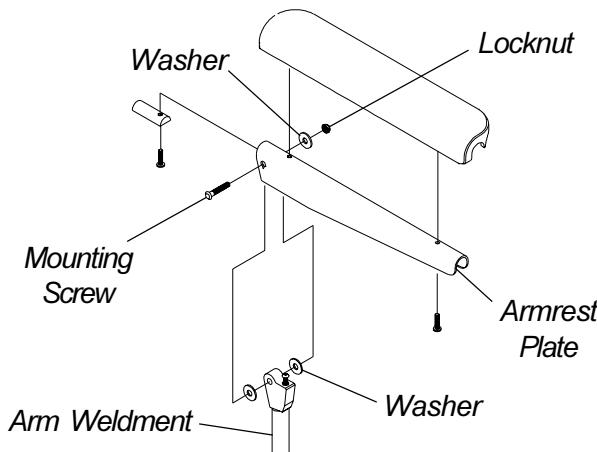

FIGURE 2 - REPLACING CAPTAINS VAN SEAT ARMREST PLATE
REPLACING CAPTAINS VAN SEAT ARMREST PLATE (FIGURE 2)
1. If necessary, remove the three (3) mounting screws, spacers and locknuts that secure the joystick mounting bracket to the armrest plate.
4. Position the **NEW** armrest plate on the armrest weldment and secure with the mounting screw, washers, and locknut. Refer to FIGURE 2 for correct hardware orientation.
6. If necessary, reinstall the three (3) mounting screws, spacers and locknuts that secure the joystick mounting bracket to the armrest plate.
REPLACING BACK UPHOLSTERY (FIGURE 2)